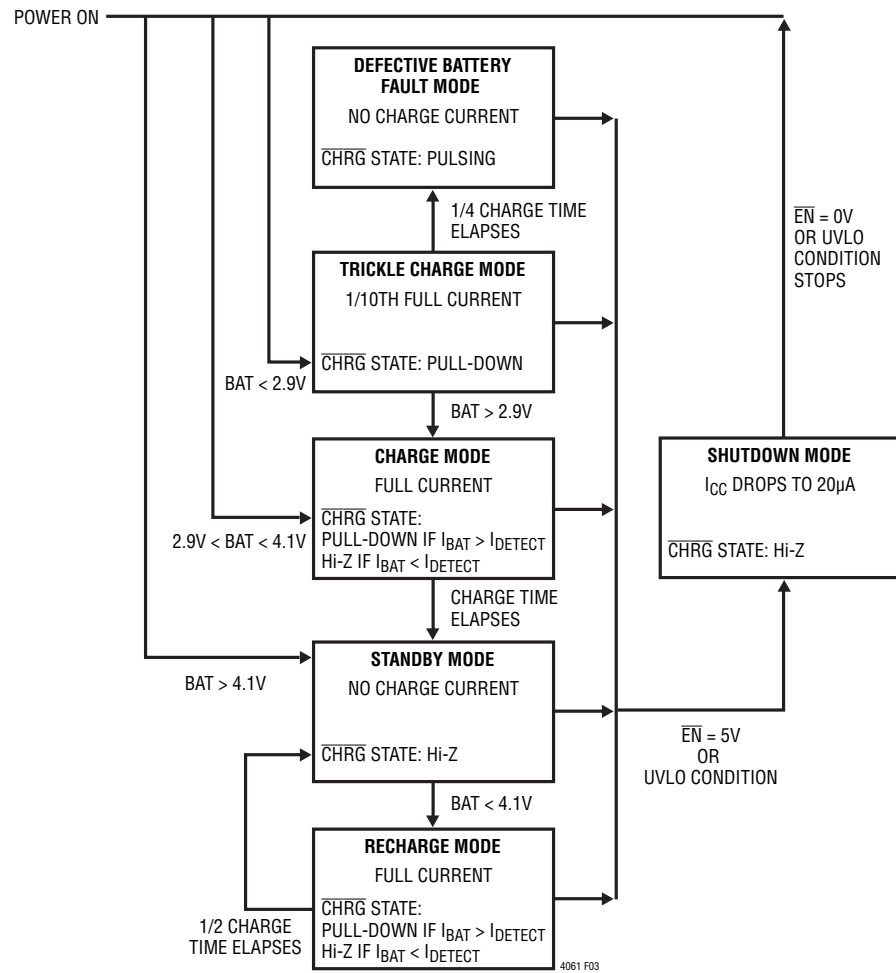

Figure 3. State Diagram of a Charge Cycle Using Charge Time Termination
1.5 hours. Figure 3 describes the operation of the LTC4061 charger when charge time termination is used.